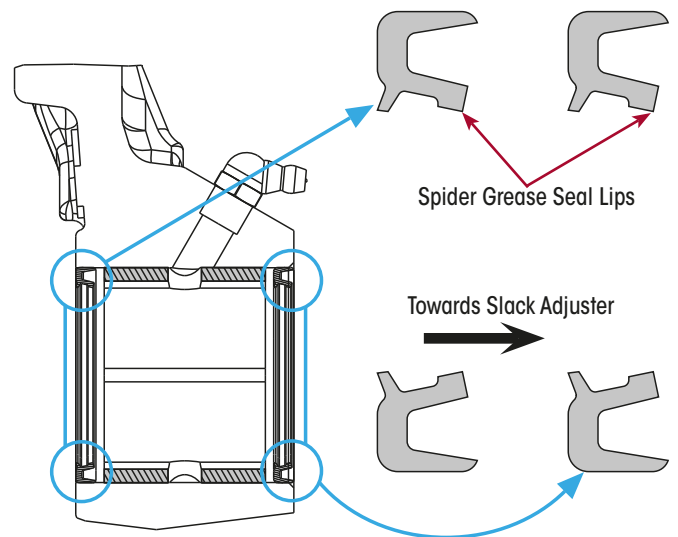

Figure 86: Spider Grease Seal Orientation
5. Install new inner and outer spider grease seals on each side of the spider S-cam bush. Refer Figure 86.